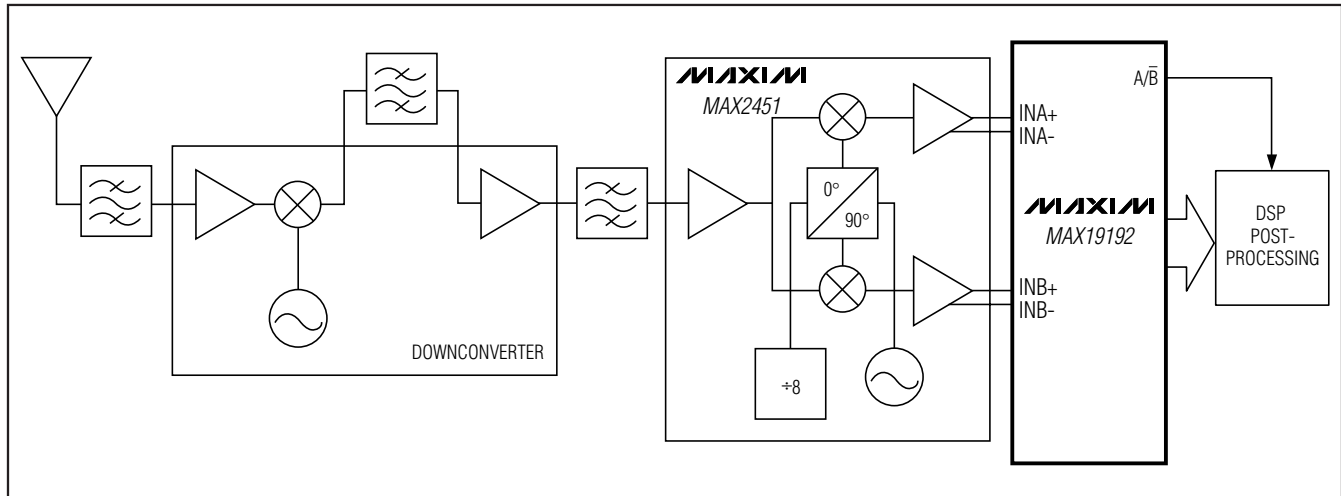

Figure 12. Typical QAM Receiver Application
Quadrature amplitude modulation (QAM) is frequently used in digital communications. Typically found in spread-spectrum-based systems, a QAM signal represents a carrier frequency modulated in both amplitude and phase. At the transmitter, modulating the baseband signal with quadrature outputs, a local oscillator followed by subsequent upconversion can generate the QAM signal. The result is an in-phase (I) and a quadrature (Q) carrier component, where the Q component is 90° phase shifted with respect to the in-phase component. At the receiver, the QAM signal is demodulated into analog I and Q components. Figure 12 displays the demodulation process performed in the analog domain using the MAX19192 dual-matched, 3V, 8-bit ADC and the MAX2451 quadrature demodulator to recover and digitize the I and Q baseband signals. Before being digitized by the MAX19192, the mixed-down signal components can be filtered by matched analog filters, such as Nyquist or pulse-shaping filters. The filters remove unwanted images from the mixing process, thereby enhancing the overall signal-to-noise (SNR) performance and minimizing intersymbol interference.